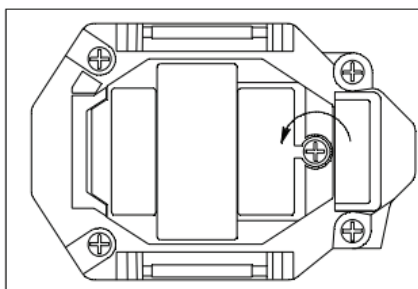

Figure 27
**6.1.2** From the back of the COVX, use a small Phillips head screwdriver to unscrew the battery cover screw and swing the cover away from the COVX to remove it as shown in Figure 27.